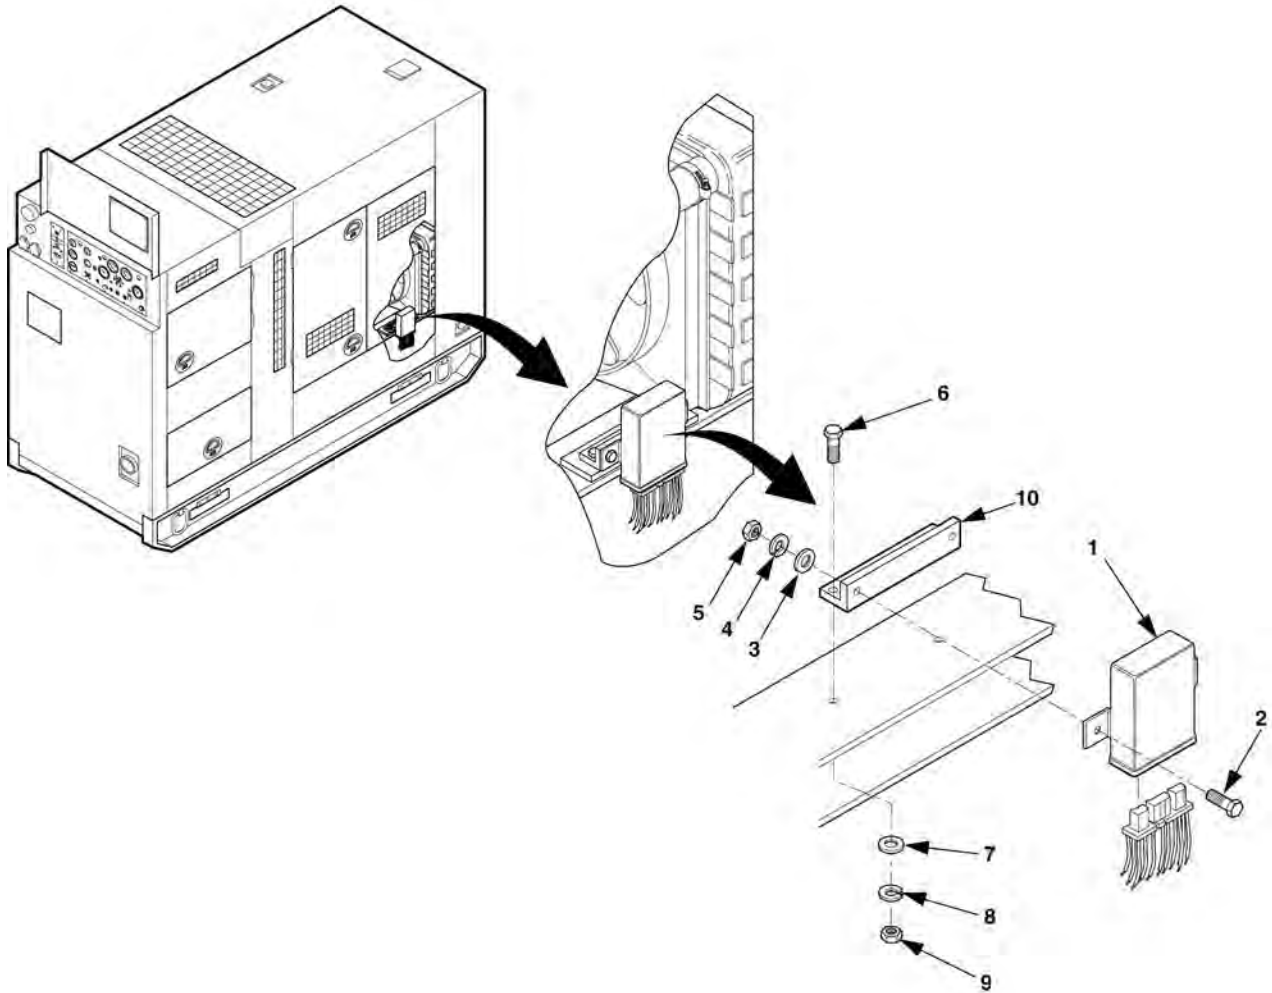

Figure 4-20. Control Unit Maintenance.
3. Remove two screws (2), Figure 4-20, flat washers (3), lock washers (4), nuts (5), and control unit (1).
4. To remove angle bracket (10), remove screws (6), flat washers (7), lock washers (8), and nuts (9).